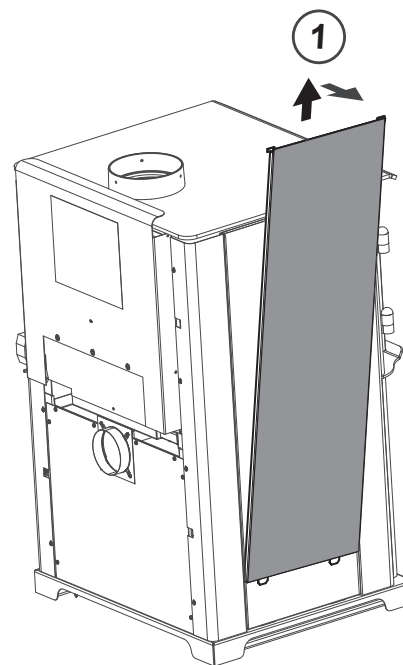

Figure 17.4
1. Remove solid panel from side by lifting up and pulling away from appliance (use a flat tool to pry from bottom if needed) (**Figure 17.4**).
2. Remove tile frame from side by lifting up and pulling away from appliance (**Figure 17.4 - reference solid side panel removal**).